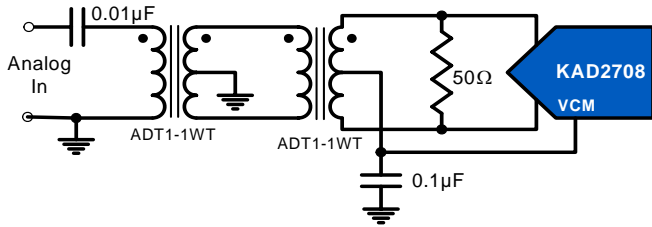

FIGURE 23. TRANSFORMER INPUT, GENERAL APPLICATION
Best performance is obtained when the analog inputs are driven differentially in an ac-coupled configuration. The common-mode output voltage, VCM, should be used to properly bias each input as shown in Figures 23 and 24. An RF transformer will give the best noise and distortion performance for wideband and/or high intermediate frequency (IF) inputs. The recommended biasing is shown in Figures 23 and 24.